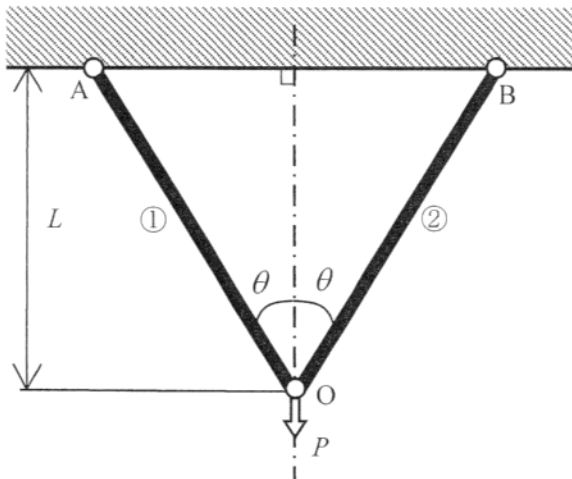
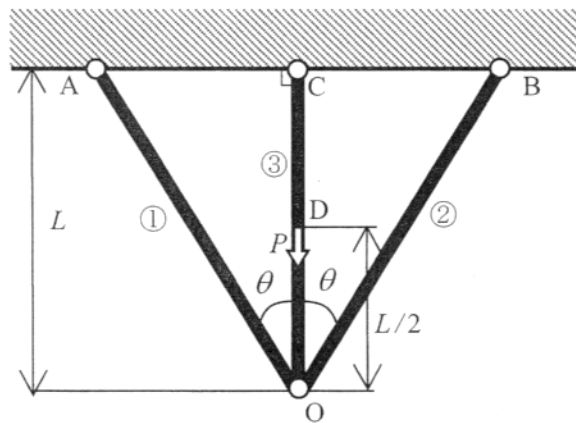

Figure 1-4
Figure 1-6
- (1) As shown in Figure 1-4, a truss structure is constructed by two bar members ① and ② of length $\frac{L}{\cos \theta}$ placed symmetrically to the vertical axis with angle θ . The load P is applied vertically downward at the point O. In the following text about the process of the calculation of the displacement of point O, fill the blanks (a) ~ (e) with appropriate mathematical formula or words.
- (2) As shown in Figure 1-6, the bar member ③ of length L is added on the symmetry axis of the structure shown in Figure 1-4. The load P is applied vertically downward at the midpoint D of bar ③. Obtain the displacement of the point O , and the axial stresses of bars ① and ③.